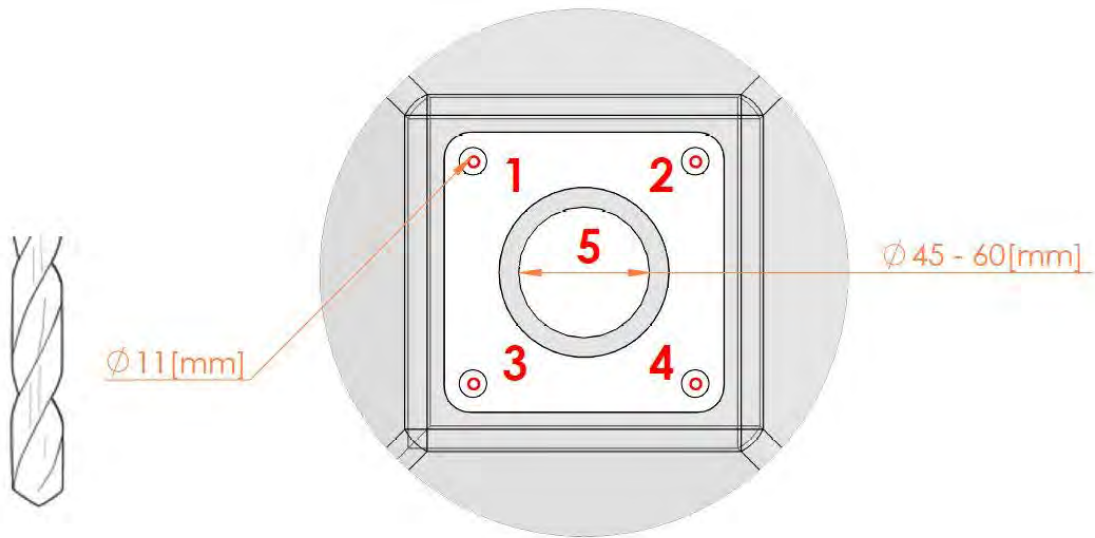
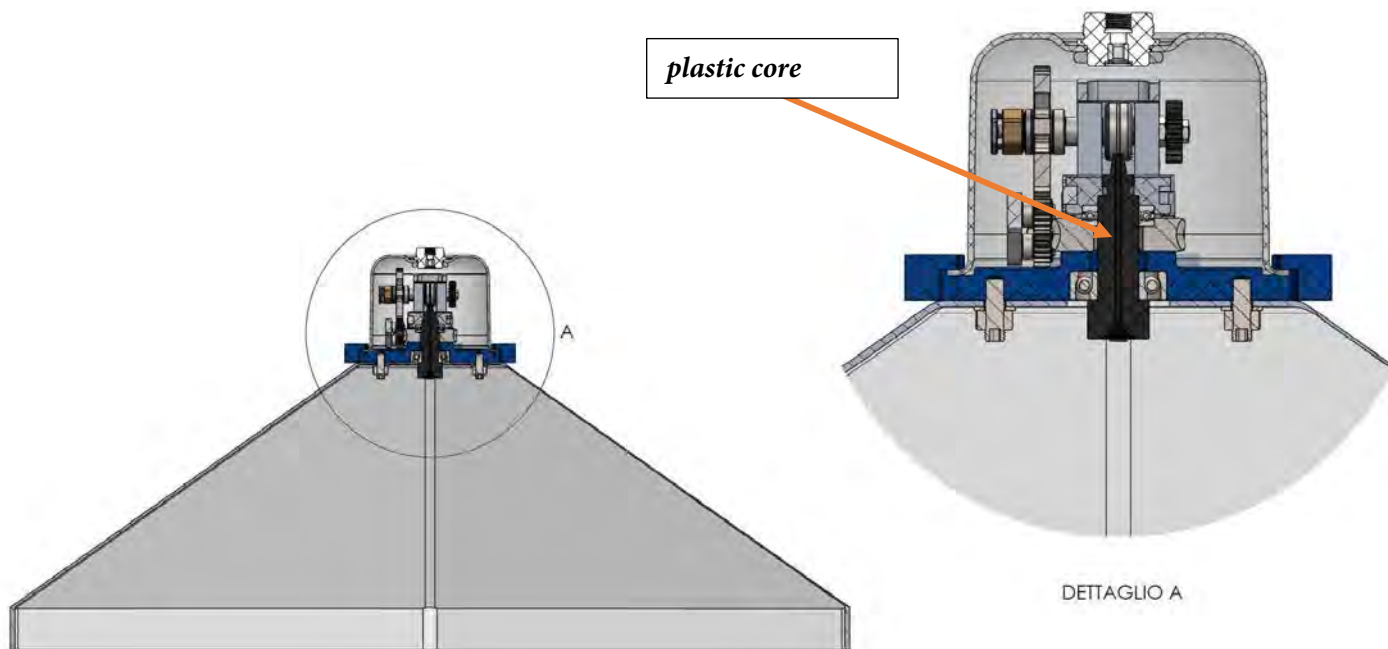

Figure 8
Figure 11
2. Drill the dome carefully matching the diameters shown in figure 8;
The central hole no.5 (figure 8) of the hood must be drilled or cut respecting the indicated diameter (min 45 max 60 mm). Drilling a hole with a smaller diameter than the one shown below can compromise the functioning of the device, as it could prevent the free rotation of the plastic core where the wire enters the twister. Figure 11.
5. Finally, fix the Twister by tightening the nuts back and making sure that the washers are correctly positioned. Figure 11.